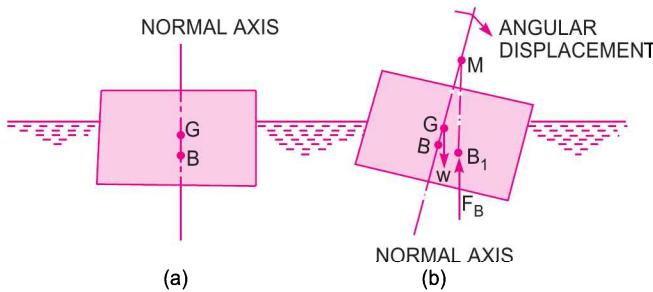

Fig. 4.5 Meta-centre
Consider a body floating in a liquid as shown in Fig. 4.5 (a). Let the body is in equilibrium and  $G$  is the centre of gravity and  $B$  the centre of buoyancy. For equilibrium, both the points lie on the normal axis, which is vertical.
Let the body is given a small angular displacement in the clockwise direction as shown in Fig. 4.5 (b). The centre of buoyancy, which is the centre of gravity of the displaced liquid or centre of gravity of the portion of the body submersed in liquid, will now be shifted towards right from the normal axis. Let it is at  $B_1$  as shown in Fig. 4.5 (b). The line of action of the force of buoyancy in this new position, will intersect the normal axis of the body at some point say  $M$ . This point  $M$  is called **Meta-centre**.
**Couple Due to Wedges.** Consider towards the right of the axis a small strip of thickness  $dx$  at a distance  $x$  from  $O$  as shown in Fig. 4.5 (b). The height of strip  $x \times \angle BOB' = x \times \theta$ .
But from Fig. 4.5 (c) it is clear that  $2 \int x^2 dA$  is the second moment of area of the plan of the body at water surface about the axis Y-Y. Therefore